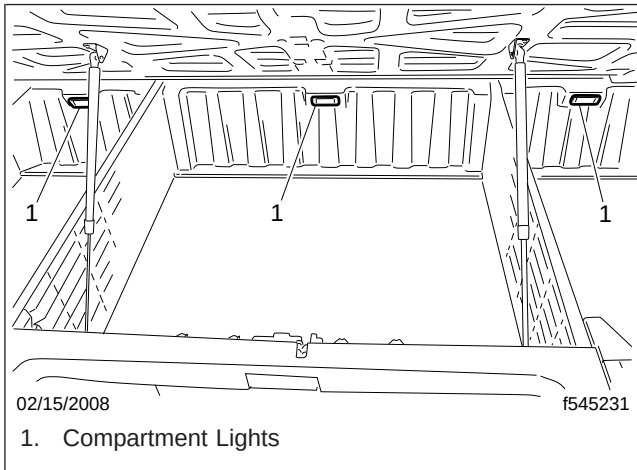

Fig. 2, Storage Compartment
1. Open up the bunk to gain access to the storage compartment lights. See Fig. 2.